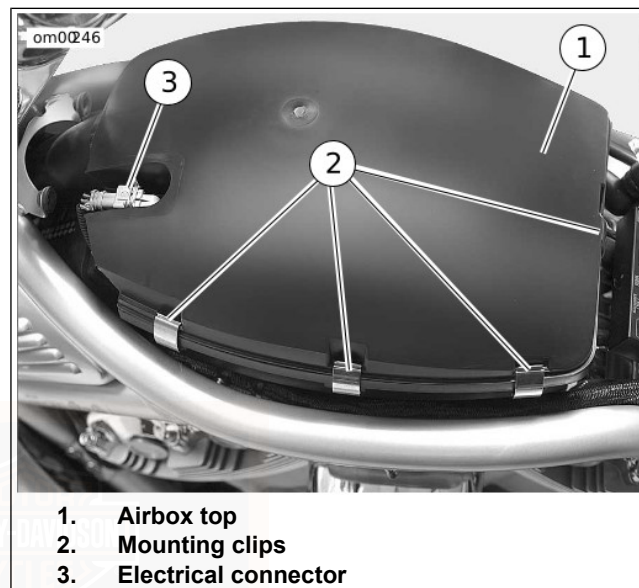

Figure 44. Airbox Top: VRSC Models
4. See Figure 44. Remove electrical connector (3) by pushing down on bail wire to unlock. The airbox top is retained by eight clips, three per side, one at the rear and one in the front under the snorkel. Release the clips and remove the airbox top.